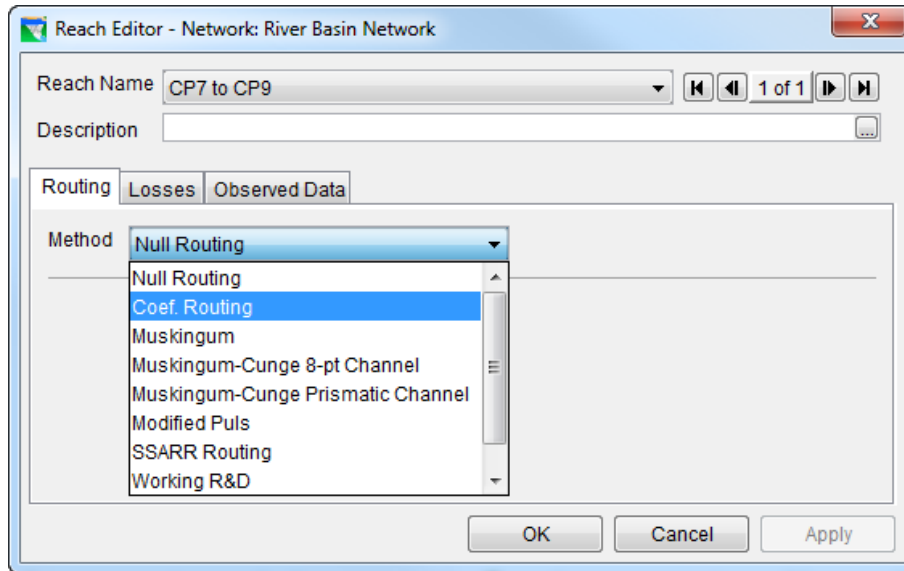

Figure 24: Reach Editor
- **Operation Rules.** To add a rule to a zone, highlight the appropriate zone and select **New** from the **Rule** menu. In the new rule window (Figure 24), enter a name for the rule, then select the pool, dam, outlet, or outlet group for which the rule will apply (**Operates Release From**), then select the rule type from the **Rule Type** list, and then click **OK** [Chapter 11].